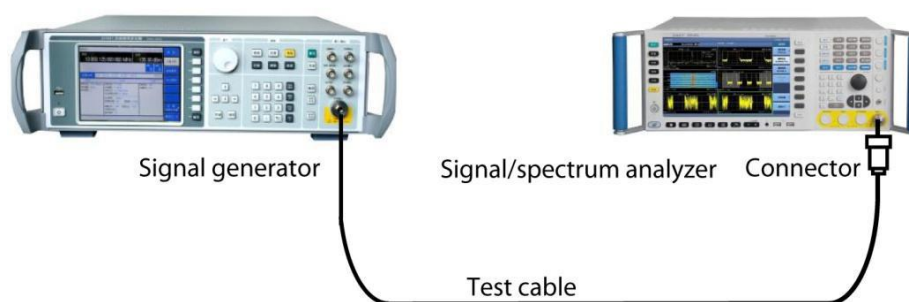

Fig. 4.63 Connection settings of occupied bandwidth measurements
Step 2: Connect the radio frequency output port of the signal source to that of the analyzer. As shown in Fig. 4.63: